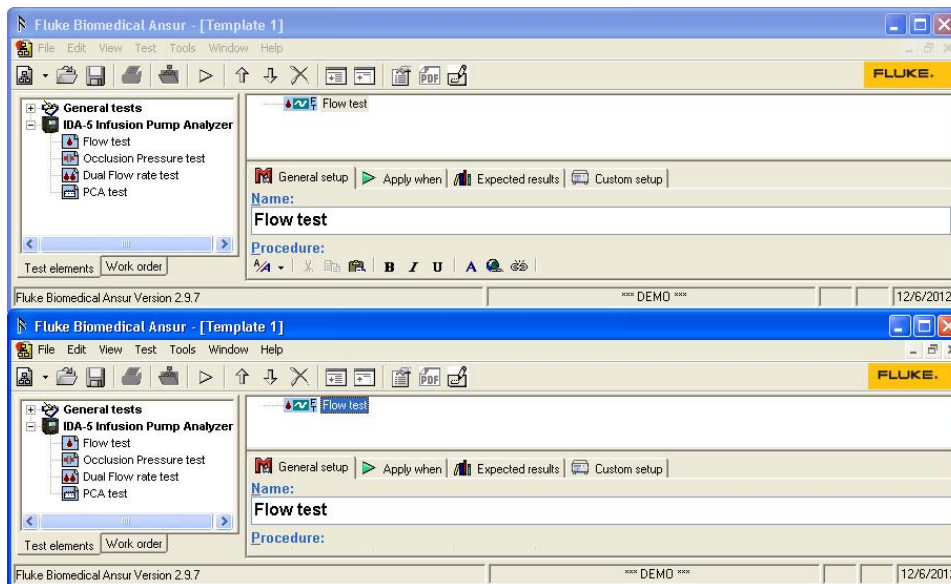

Figure 4-11. Running Two Instances of Ansur
Two Ansur windows show on the screen. They show the same test as shown in Figure 4-11.
- To see the two test guides at the same time when you do the test, organize the two Ansur windows as shown in Figure 4-11.